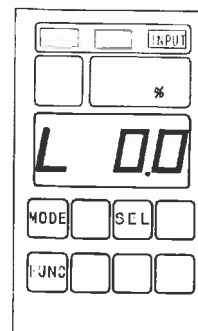

Fig. 4.1 (1)
- (1) If the [MODE] key is pressed while the [FUNC] key is being pressed down, the display mode is switched. Press several times, the display-mode of display panels show "INPUT". (Fig. 4.1 (1))
- (2) Press the [SEL] key twice, 4-digit display on the left is "L" the display. (Fig. 4.1 (1))